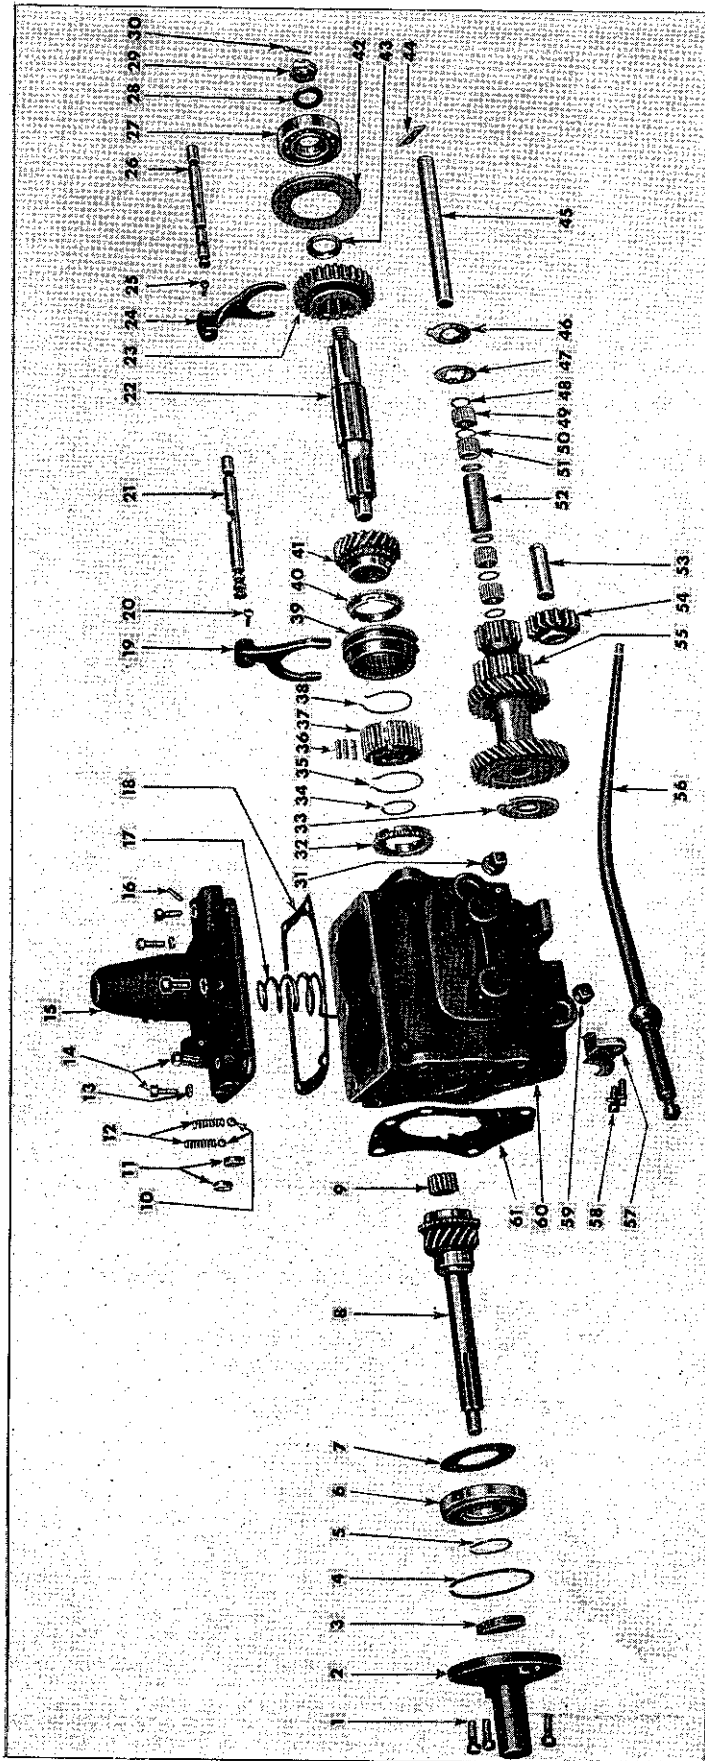

FIG. 204—TRANSMISSION—4 WHEEL DRIVE MODELS
**NOTE:** Numbers in parentheses refer to items shown in Fig. 204.
- d. Remove the three screws and washers attaching the front main drive gear bearing retainer (2) to the transmission. Remove the retainer and gasket (61).
- e. Remove the two socket-head screws from the front end of the transmission case. These screws support the oil collector (57) inside the case.
- f. Tap lightly on the front end of the countershaft to loosen the lock plate (44). Remove the lock plate from slots cut in the rear ends of the countershaft and reverse idler shaft.